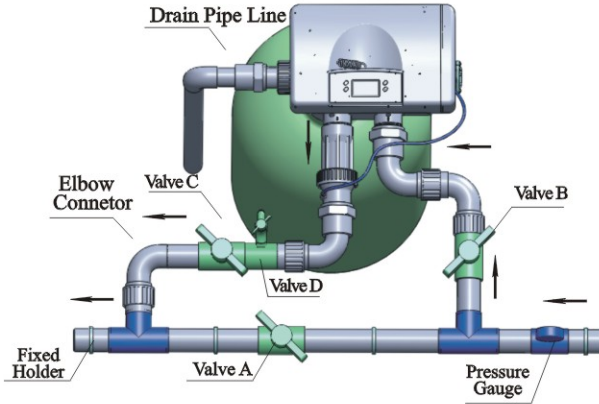

Figure1-3
③ Pipeline connection
- As Figure1-3 shows, install a pressure gauge in water inlet.
- Install sampling valves in inlet、 outlet and pipeline A.B.C.D as showed in Figure 1-3.